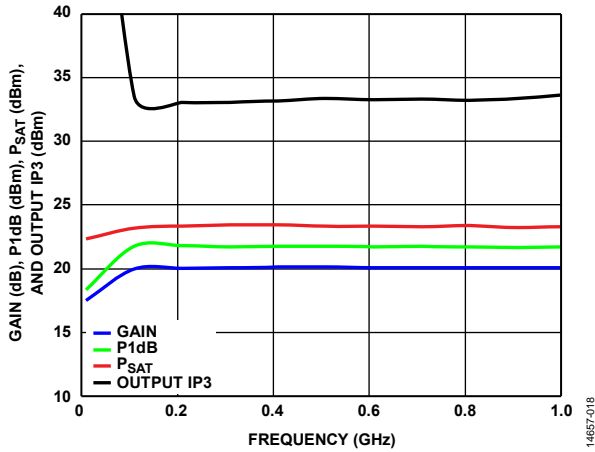
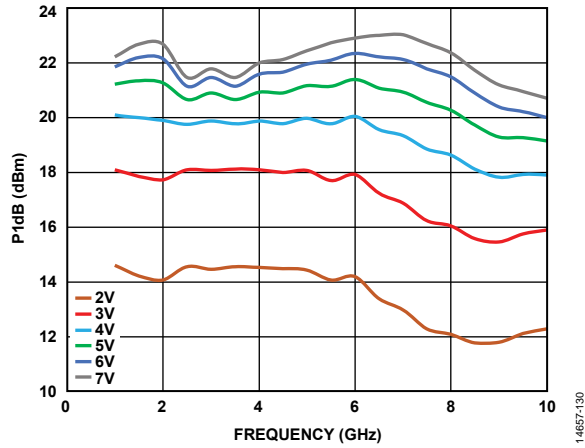
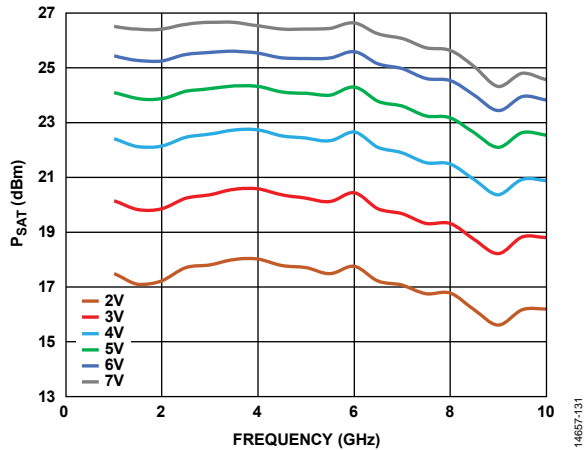

Figure 18. Gain, P1dB, P_{SAT} , and Output IP3 vs. Frequency
Figure 30. P1dB vs. Frequency for Various Supply Voltages, $I_{DQ} = 65$ mA
Figure 31. P_{SAT} vs. Frequency for Various Supply Voltages, $I_{DQ} = 65$ mA
Figure 18, Figure 30, and Figure 31 show that increasing the voltage from 2 V to 7 V typically increases P_{1dB} and P_{SAT} at the expense of power consumption with minor degradation on noise figure (NF).